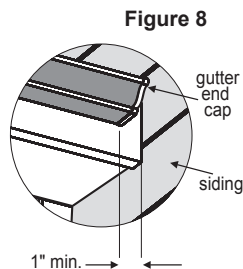

Figure 8
- Ensure gutters have end caps. Maintain a minimum 1" gap between end caps and siding & trim (fig. 8).